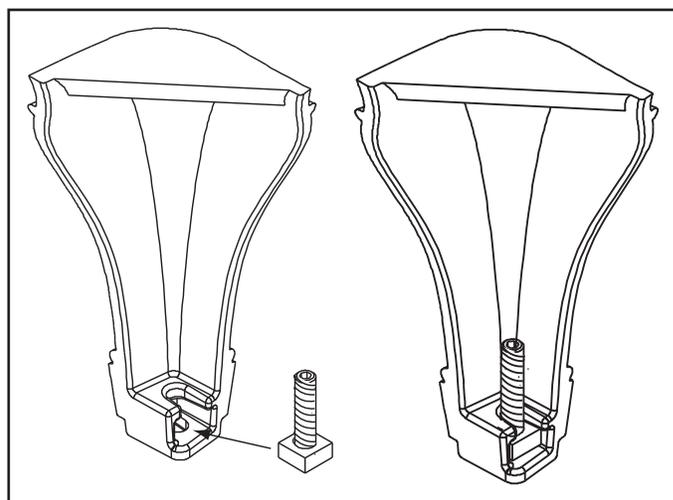

Figure 24.3
9. Slide Allen bolt/nut assemblies into slots of two of the legs with the nuts on the bottom (**Figure 24.3**).